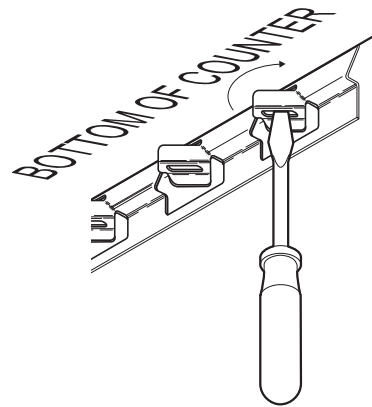

Fig. 2 Set the Wellsloks
- b. After installation, verify that the tabs on the Wellsloks are turned out to lock the appliance into the counter (see Fig. 2).